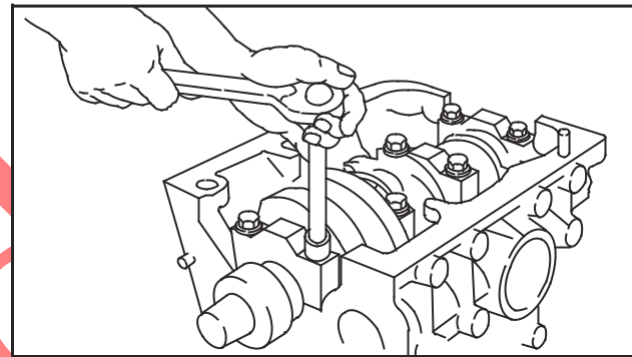

Fig. 6 – Removing Main Bearing Caps
9. Remove crankshaft main bearing caps, keeping main bearings with their respective caps, Fig. 6.